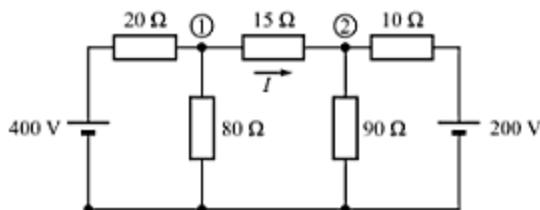

Fig. 3.81
22. Using node-voltage analysis, determine the current I in the $15\text{-}\Omega$ resistor of the network shown in Fig. 3.81.